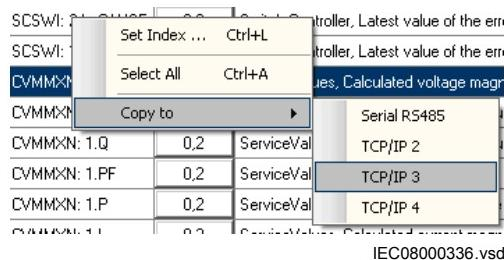

Figure 79: CMT: Context menu in DNP3 window
1. Click the two inner arrows to sort signals to another index sequence, or select *Set Index ...* from the context menu to move one or a set of signals to another array, see Figure 79.